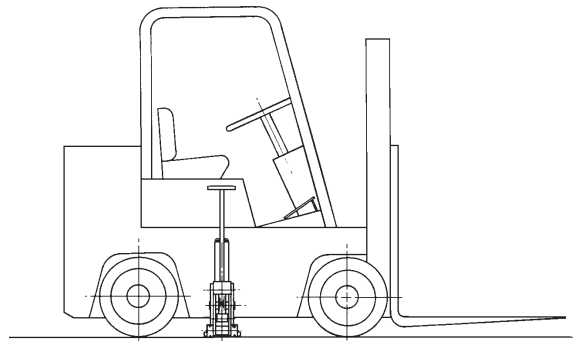

Figure 3
1. Position the jack closer to the rear wheels than the front wheels to maintain balance. See Figure 3. If the forklift seems heavier at one end, lower the jack and move it closer to the heavy end.